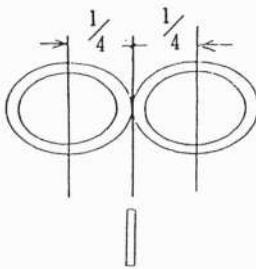
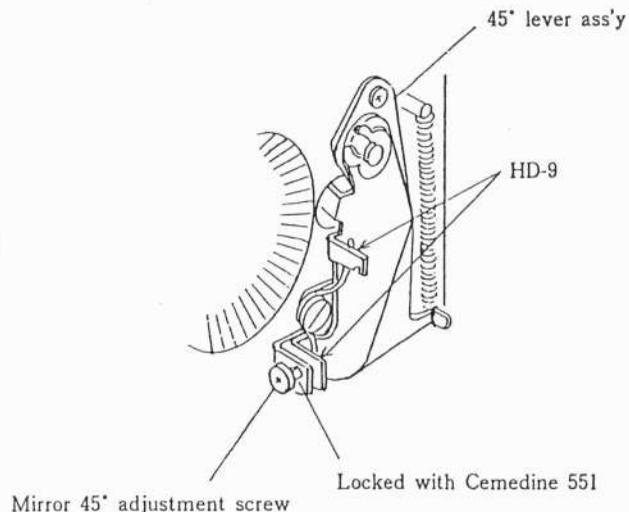

Fig. 75
Fig. 76
- When the finder focus error is within the " $\pm 1/4$ " range (Fig. 75) adjust by turning the 45° mirror adjustment screw as shown in (Fig. 76). This adjustment can be performed from right side of the Mirror Box by removing the Front Cover. The screws should not be turned more than  $3/4$  of a revolution.